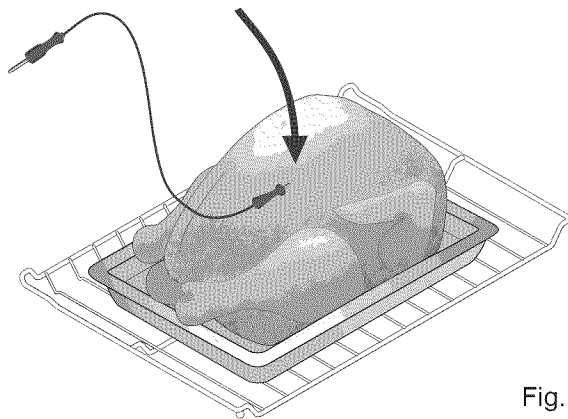

Fig. 1
- Always insert the probe so that the tip rests in the center of the thickest part of the meat. Do not allow the probe to touch bone, fat, gristle or the pan. -Fig. 1-